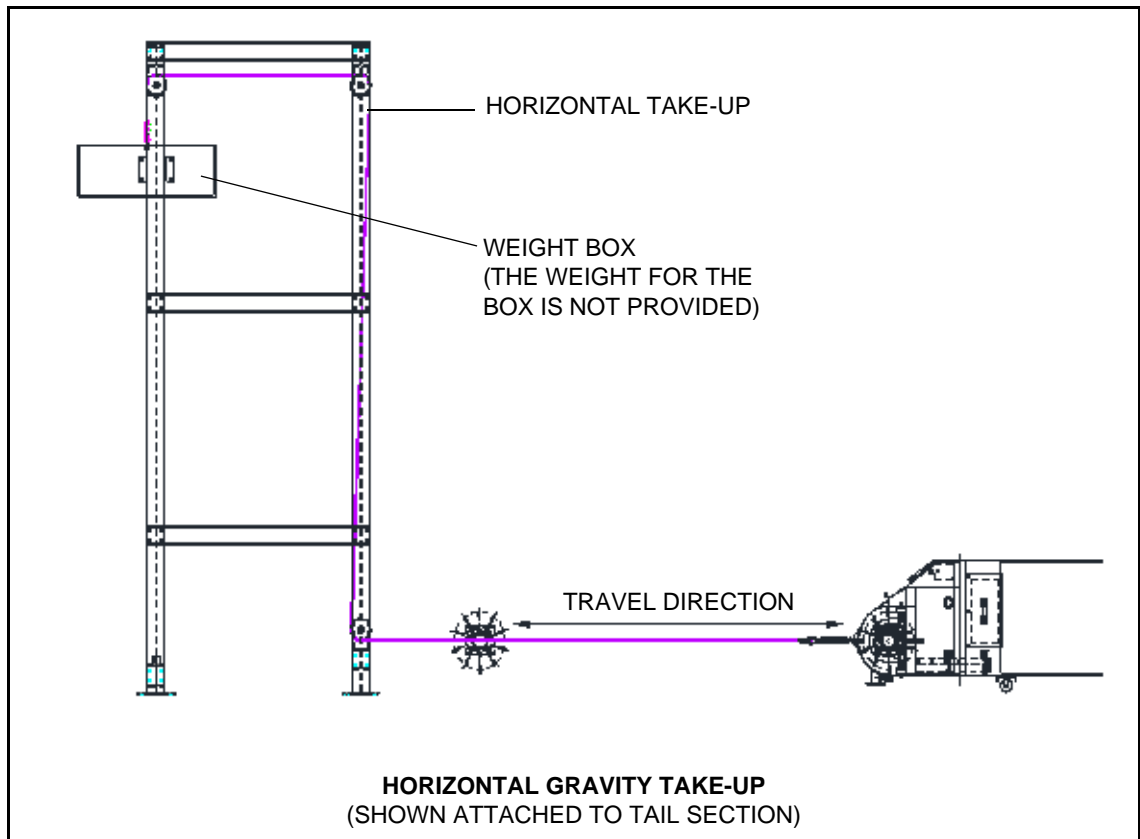

Figure 3.12
1. Install the horizontal gravity take-up assembly as illustrated in Figure 3.12. Refer to the general arrangement drawing.